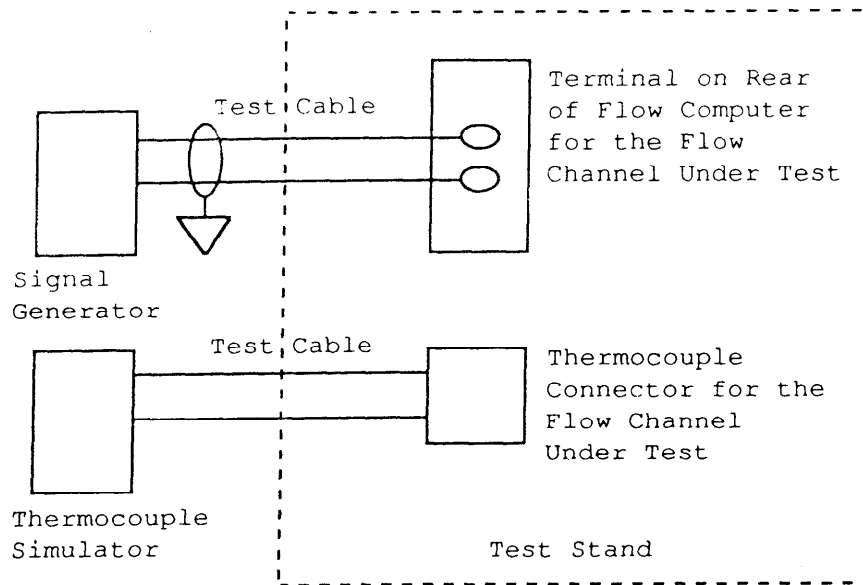

Figure 4.1. Flow Indication Loop Calibration Test Setup
- (1) Beginning with flowmeter (90) in table 4.5, remove the wires from the terminals indicated and connect the test cable.
- (2) Replace thermocouple that is associated with the flowmeter with test cable and connect to thermocouple test set as indicated in figure 4.1.
- (3) Locate the latest flowmeter calibration data sheet.
- (4) Set the temperature calibrator to the temperature listed in the flowmeter data sheet.
- (5) Verify the temperature by selecting the proper flow computer channel indicated in column 4 of table 4.5.
- (6) Select 5 or more frequency values evenly spaced from the flowmeter data sheet.
- (7) Select the proper flowmeter channel, read and record the flow.
- (8) Compare test results with the flowmeter data sheets for a pass or fail condition.